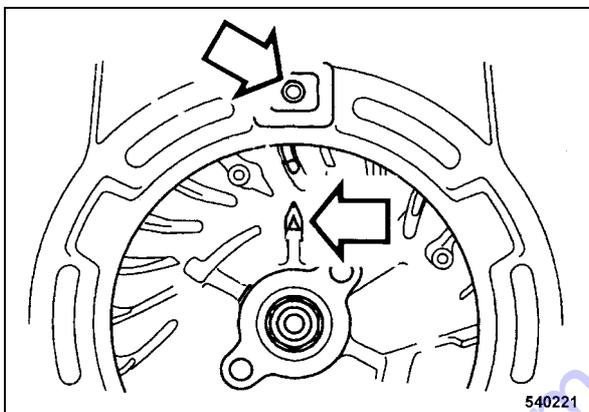

Fig. 49
- Align the alignment mark on the flywheel rib (Fig. 49) with the top bore in the fan cover .